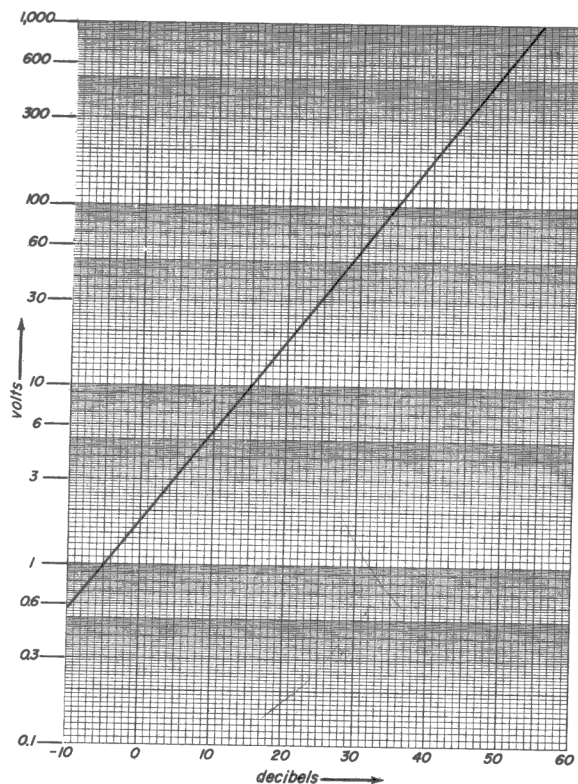

Fig. 34-2
Discussion. The graph you draw should look like Fig. 34-2. From the graph, you can find the power in decibels to the reference 6 mw that is equivalent to any a-c voltage reading on your meter. For example, the graph shows that a 6 volt a-c reading means 11 db to the reference 6 mw in 500 ohms. It is possible to draw lines on the graph to represent decibel levels with reference to any combination of power and resistance reference levels.
Step 2. Look up this value of voltage on the graph that you have drawn in Fig. 34-2. From the graph, find what number of decibels this voltage corresponds to.